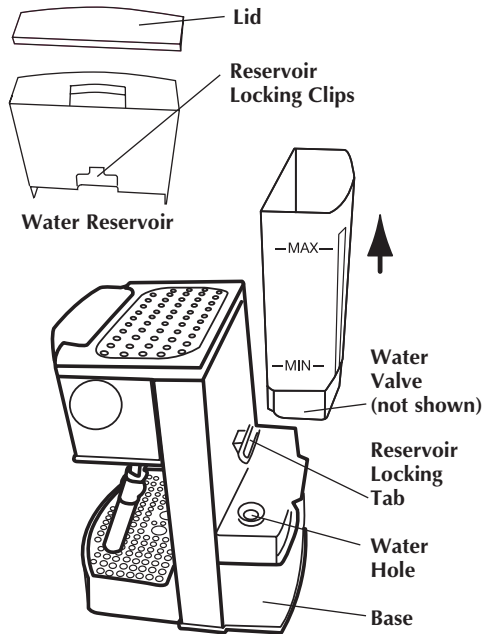

Figure 3
2. Fill the Water Reservoir to the MAX mark. Replace Water Reservoir in its original position on the back of the unit by sliding the Reservoir's locking clips down behind the Reservoir Locking Tab (see Figure 3), and connecting the Valve at the bottom of the Water Reservoir with the hole in the Base of the unit. Make sure it fits securely into place. Replace the Lid.